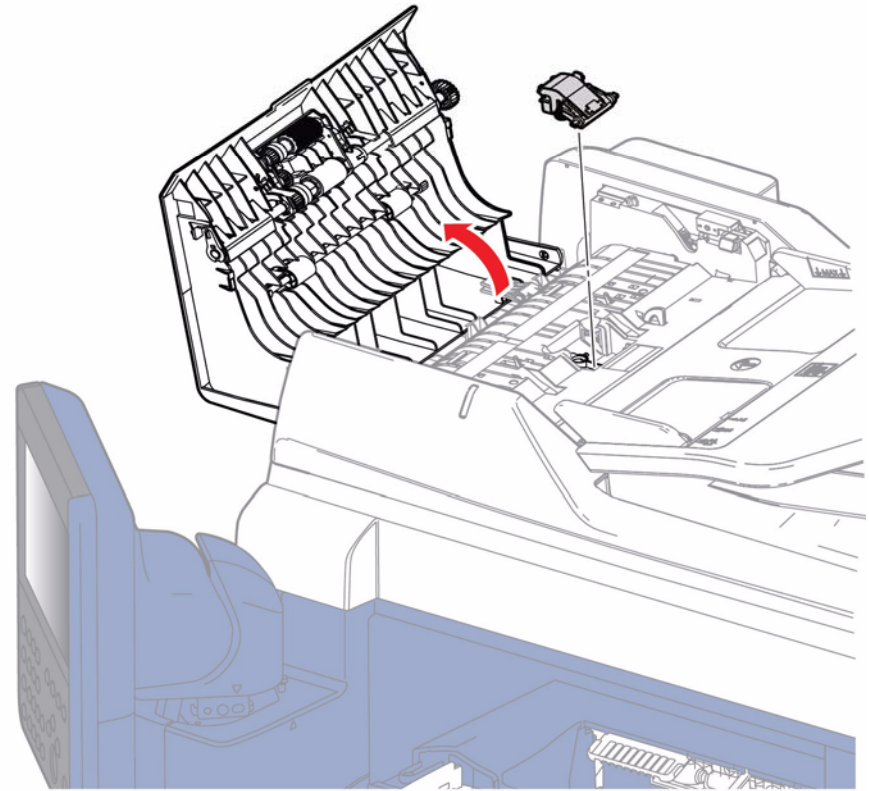

Figure 2 Remove the DADF Retard Assembly
4. Refer to Figure 2 to release 2 clips and remove the Separation Pad.